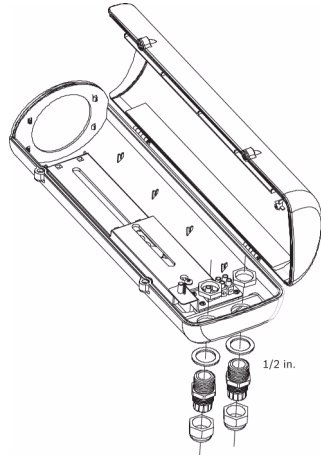

Fig. 5.4 Attaching the 1/2 in. NPT Fittings
1. Determine to use either the rear or bottom gland holes and remove the (2) rubber hole plugs.
4. Attach the two (2) 1/2 in. NPT fittings with the rubber washer on the outside of the housing directly to the rear hole openings (see *Figure 5.4* on page 6).